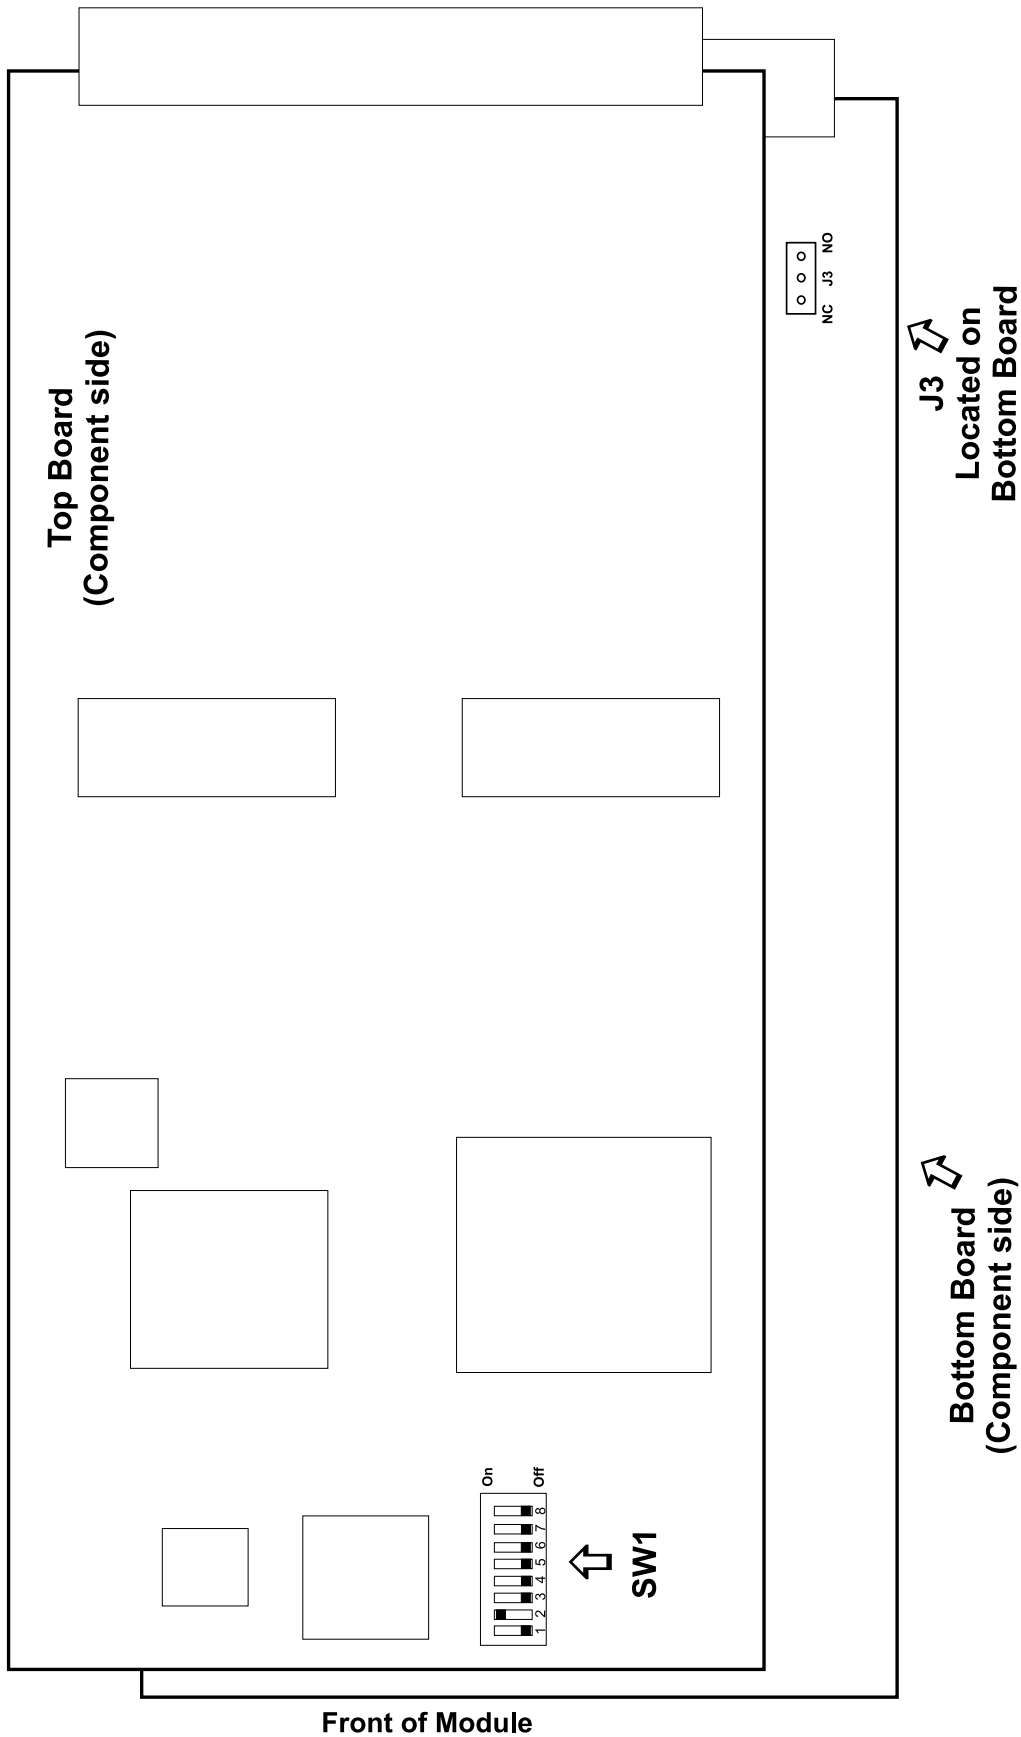

Figure 14-3. TCF-10B Universal Receiver Location of SW1 Dip switch & J3
LOW SIGNAL—Low signal alarm relay: selectable normally open (NO) or normally closed (NC) contact; relay is energized when RF signal is present and above minimum sensitivity setting. Use J3 on the bottom board to set the NO or NC position please see Figure 14-3.